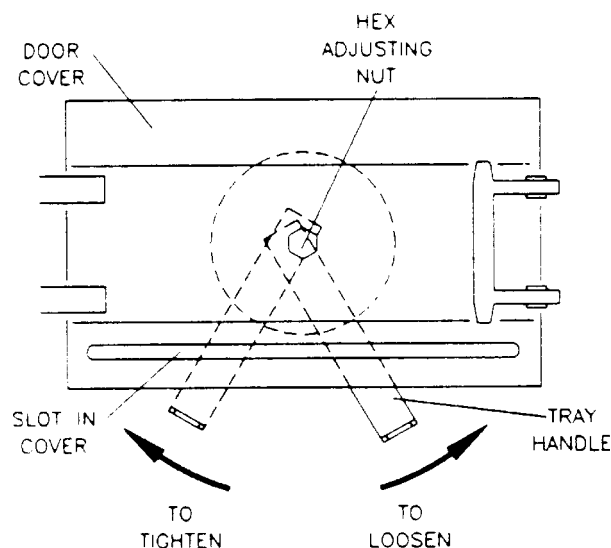

Figure 35: Door Adjustment
3. Hold the tray handle at the fork end so that the fork points toward you. Insert the hex end of the tray handle through the slot in bottom of the door cover (see Figure 35).